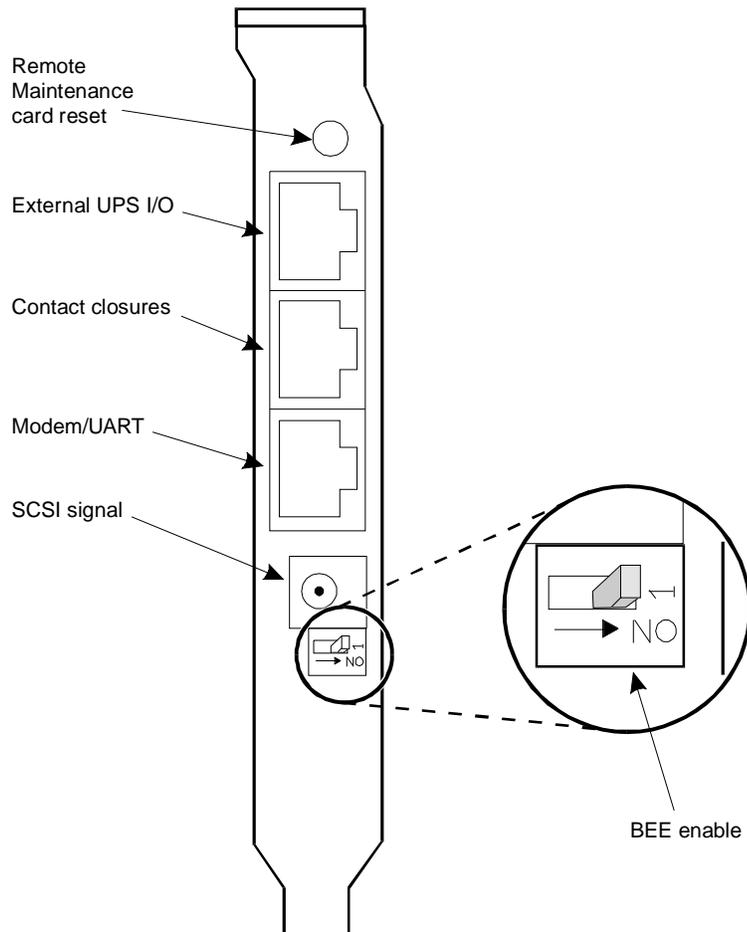

Figure 5-30. Faceplate of the Remote Maintenance Circuit Card Showing the BEE Enable Switch
Figure 5-30 shows the faceplate of the Remote Maintenance circuit card and an enlarged view of the BIOS Extension EPROM (BEE) enable switch. Ensure that this switch is set to the ON (default) position as shown.
Make sure the BEE enable switch on the remote maintenance circuit card is in the ON position (Figure 5-30).
Make sure the BEE enable switch on the remote maintenance circuit card is in the OFF position (Figure 5-30).
16. Place the BEE enable switch on the remote maintenance circuit card in the ON position (Figure 5-30).